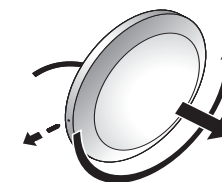

Figure 4
1. Remove cover from housing (Figure 4).
6. Attach cover and turn clockwise to tighten (Figure 4).
5. Attach cover and turn clockwise to tighten (Figure 4).